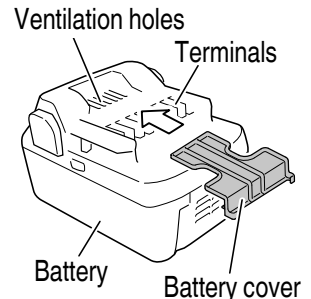

Fig. 2
- To prevent shorting from occurring, load the battery in the tool or insert securely the battery cover for storing until the ventilator is not seen (See Fig. 2).